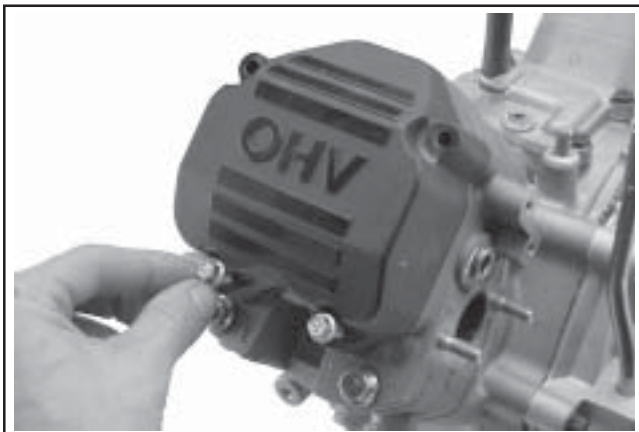

Figure 11-40. Installing Valve Covers.
4. Install the lower two mounting screws in each cover, and finger tighten only. Upper screws will be installed later. See Figure 11-40.